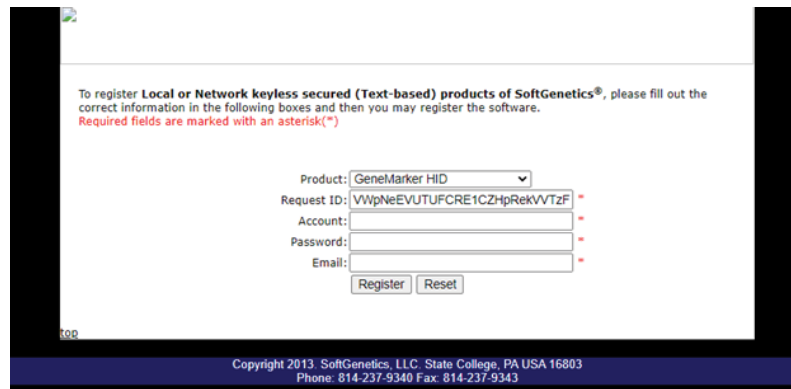
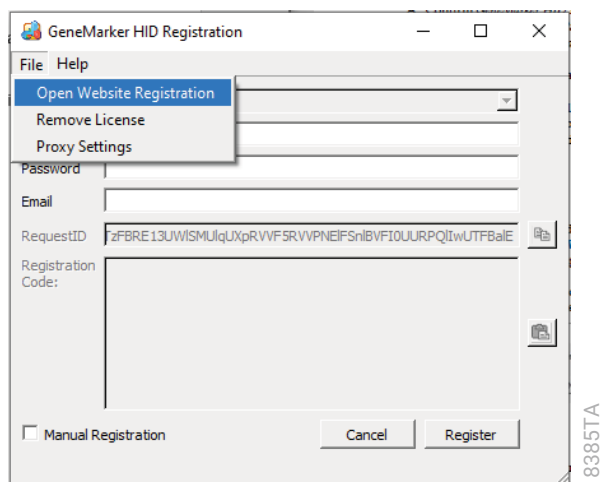

Figure 19. The Website Registration form.
Figure 20. Accessing Website Registration from the 'GeneMarker HID Registration' window.
1. If the computer does not have an internet connection, select the **Copy** button to the right of the RequestID field. Then, from a computer with internet connection, navigate to the web site: https://softgenetics.com/releasereg/ng_register.jsp to access the Website Registration form (Figure 19).
Alternatively, if the computer does have an internet connection, select **Open Website Registration** from the File menu of the 'GeneMarker HID Registration' window (Figure 20) to open the Website Registration form in an internet browser (Figure 19).
2. Select the **Register** menu in the 'SoftGenetics License Server Manager' window (Figure 19).